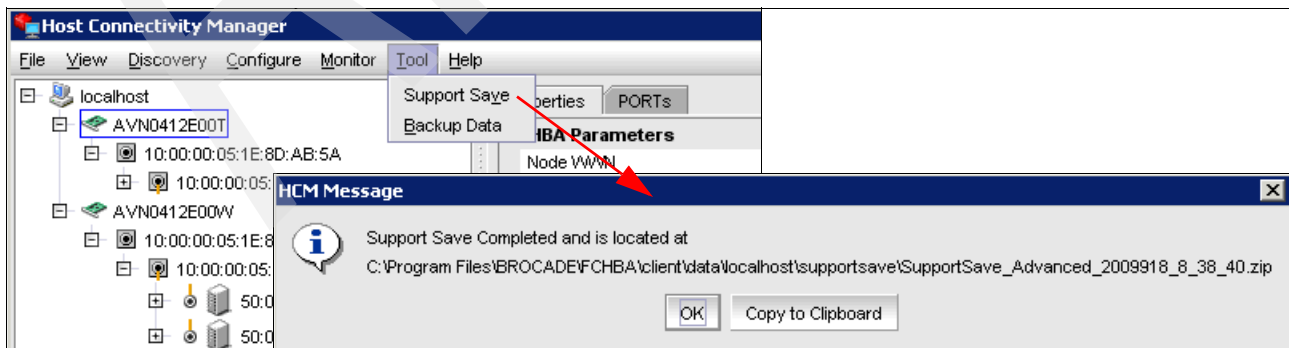

Figure 7-76 HCM Support Save
- ▶ In HCM, launch Support Save from the Tools menu (see Figure 7-76).